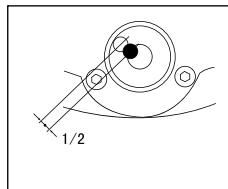

Figure 7
- Check the bubble level (10). Use the leveling screws (9) to position the bubble level (10) in the center. Turn the device 180 degrees. If the bubble level stays in the center, the device is calibrated.
- If the bubble level is not in the center, rotate the leveling screws (9) to move the bubble level. The bubble should be placed at least on the $\frac{1}{2}$ between the center and the outer end of the circle (Fig. 7).